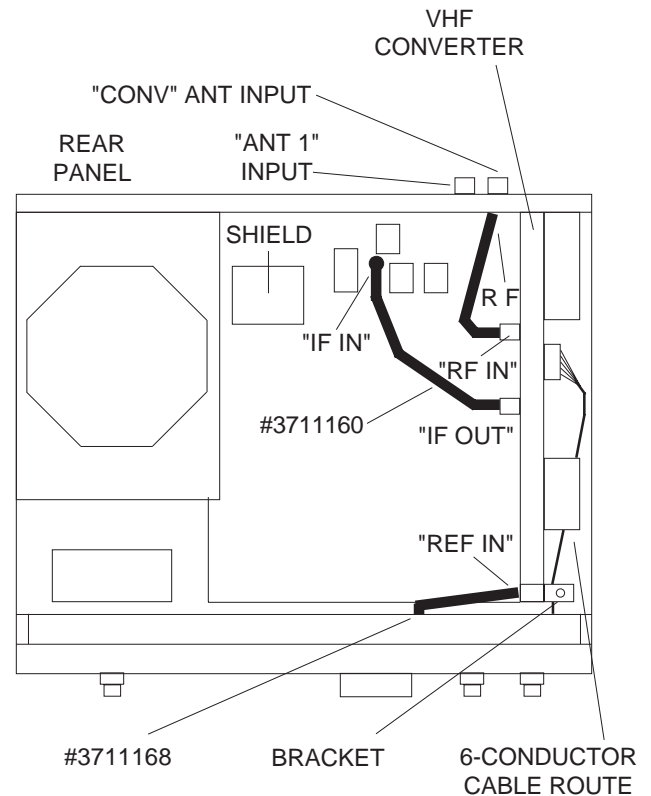

FIGURE 4, TOP VIEW
8) Position the receiver so it rests on its bottom chassis with front panel facing towards you. Plug the unconnected end of the 26" 'REF' coaxial cable #3711168, into the "REF IN" connector located on the VHF converter assembly as shown in Figure 4.
9) Locate the factory installed coaxial cable connected to the rear panel "CONV" antenna input connector. Disconnect the terminal end of this coax from the Front End Board connector. Plug the coax cable into the 'RF IN' terminal of the VHF Converter as shown in Figure 4.